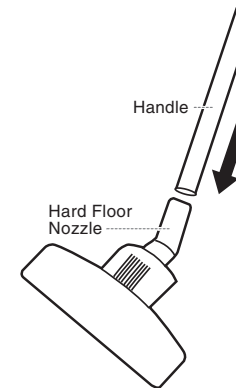

Fig. 15
- Insert end of handle into hard floor nozzle. (Fig. 15)